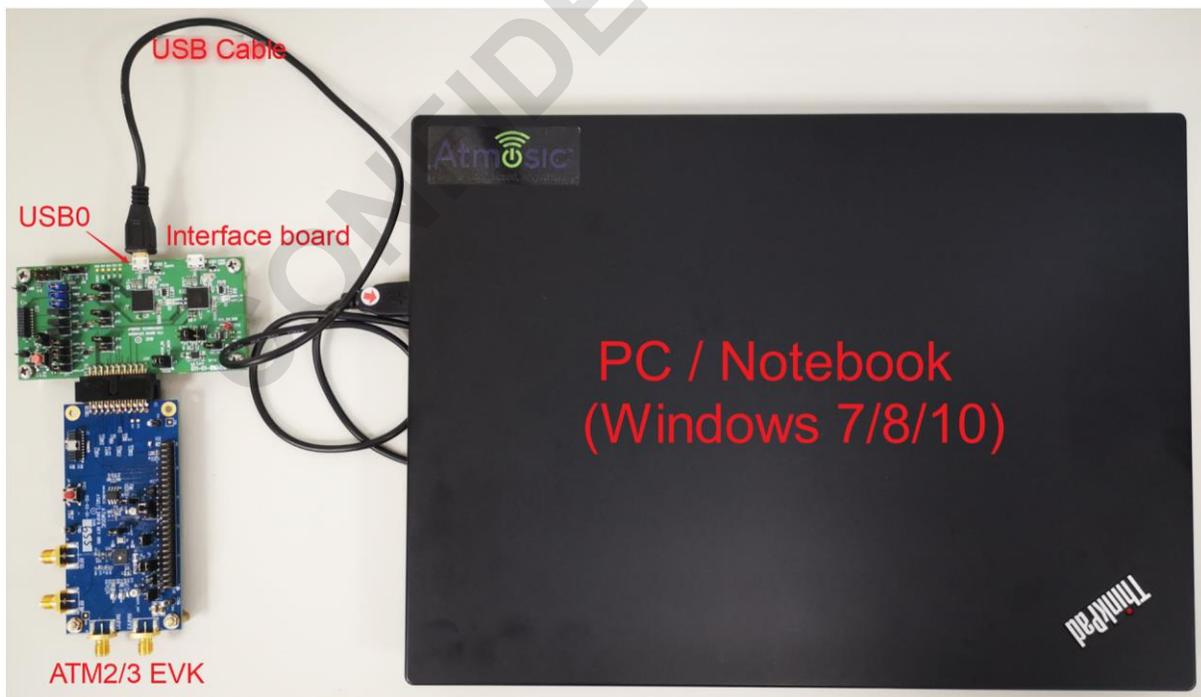

Figure 1 - RF Tool Hardware Environment
- Figure 1 - RF Tool Hardware Environment
Figure 1 shows the connection setup between PC, Interface board and EVK